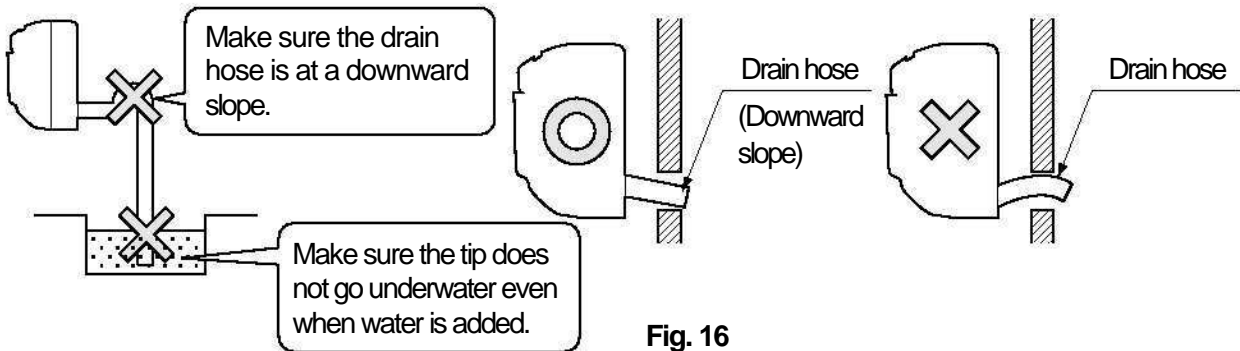

Fig. 16
(1) Install the drain piping. (Refer to Fig. 16)
- The drain pipe should be short with a downward slope and should prevent air pockets from forming. • Watch out for the points in the Fig. 16 when performing drain work.